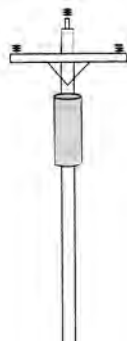
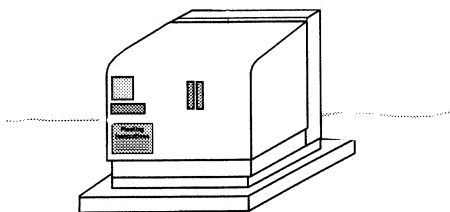

Figure 1 Pole with Transformer
Figure 2 Padmount transformer
To determine if the electrical system already installed in the area is overhead or underground, check the facilities along the road. If the power system is overhead, a series of poles similar to Figure 1, page 6 will be visible. If the power system is underground, there will be items like those in Figures 2 through 4, page 6.
- Does the pole have a transformer on it? (See Figure 1.)
- Is the new meter location less than 300 feet from the nearest Cooperative transformer? (See Figure 2.)